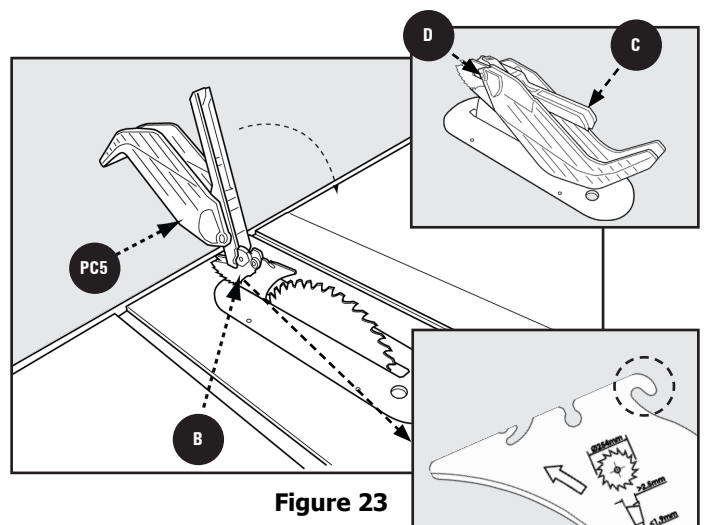

Figure 23
3. Rotate the Blade Guard Assembly toward the front of the Saw until the metal portion **C** of the Blade Guard Assembly is parallel to the Table as shown in Figure 23.